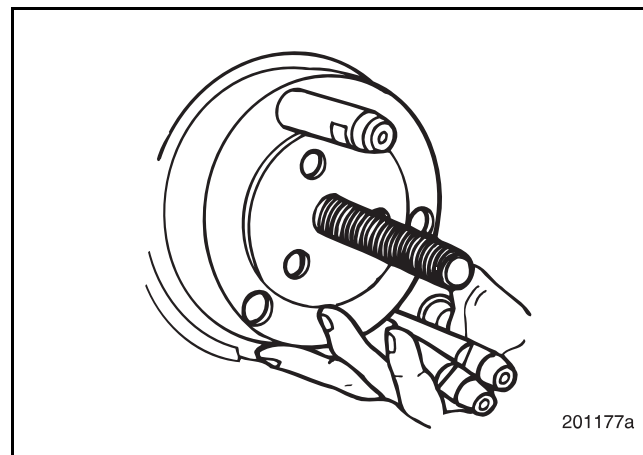

Figure 6-38 — Adapter Plate J 37716-B Installation
3. Using the three guide pins, attach the adapter plate to the crankshaft flange. Refer to Figure 6-38.